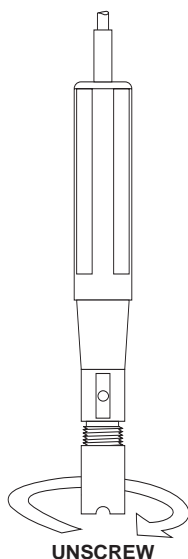

fig. 2
- Unscrew the membrane by turning it counterclockwise (see fig. 2)